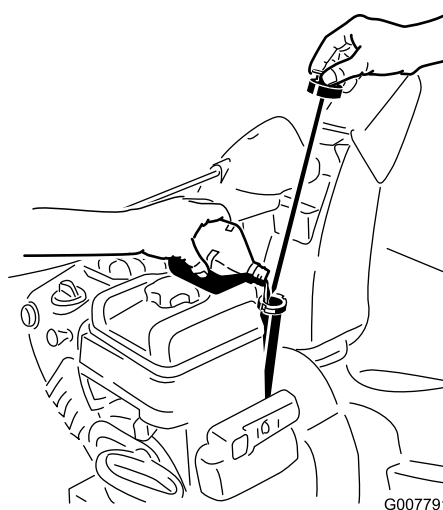

Figure 43
2. Remove the dipstick and check the oil level (Figure 43). If the oil level is below the Add mark on the dipstick, add oil. Refer to Filling the Engine with Oil.